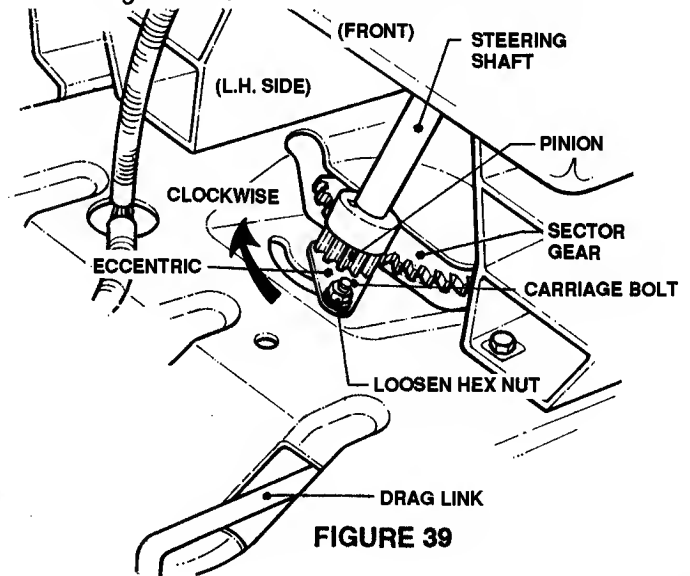

FIGURE 39
1. Working from the left side of the tractor, use a 7/16" wrench to loosen nut on top of carriage bolt. See Figure 39.